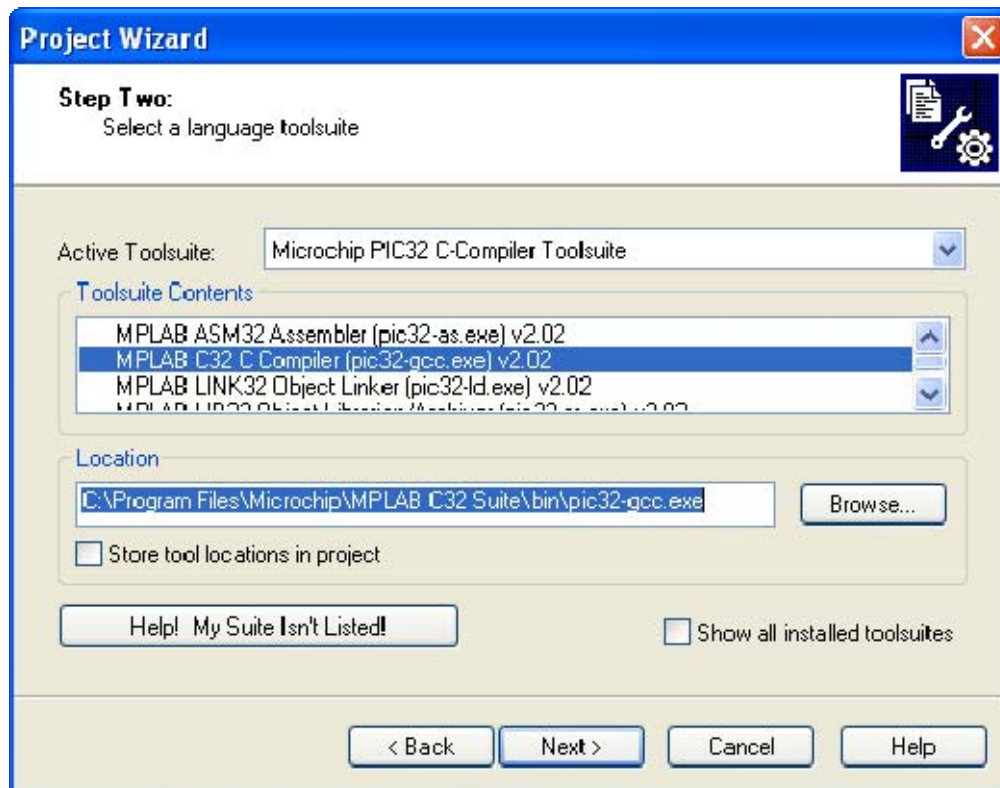

Figure 7: Compiler/Assembler Selection
Step 5: First, select the “Microchip PIC32 C-Compiler Toolsuite” from the “Active Toolsuite” menu. Next, select “MPLAB C32 C Compiler” Note: you may have a different version of this compiler than the one shown in Figure 7. Before clicking “Next >” verify that the “Location” of the gcc executable is correct. In the future we will be using the MPLAB ASM32 Assembler, please observe this tool as an option.